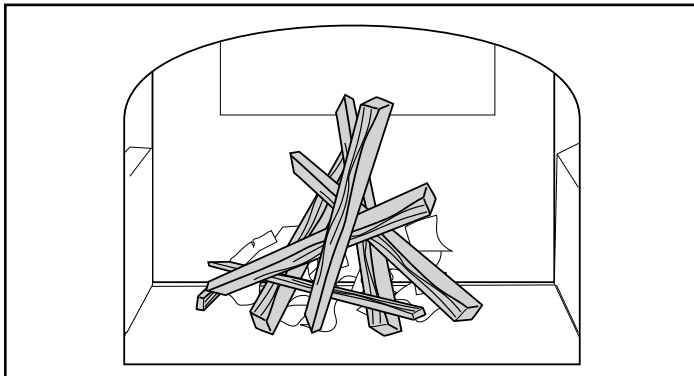

Figure 5.4 - Start the fire with newspaper and dry kindling.
2. Place several sheets of crumpled newspaper in the stove. Place six or eight pieces of dry kindling split to a finger-width size on the paper. On the kindling, lay two or three larger sticks of split dry wood approximately 1-2" (25-51 mm) in diameter, Figure 5.4.